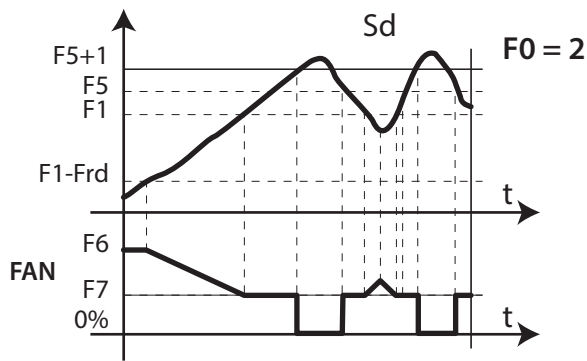

Fig. 6.0
- If $F0=2$ and $HO1=2$, speed fan is calculated in according to Figure 6.0. Anyway, if speed fan is higher than 0, "FAN" relay DO3 is ON anyhow (closed):